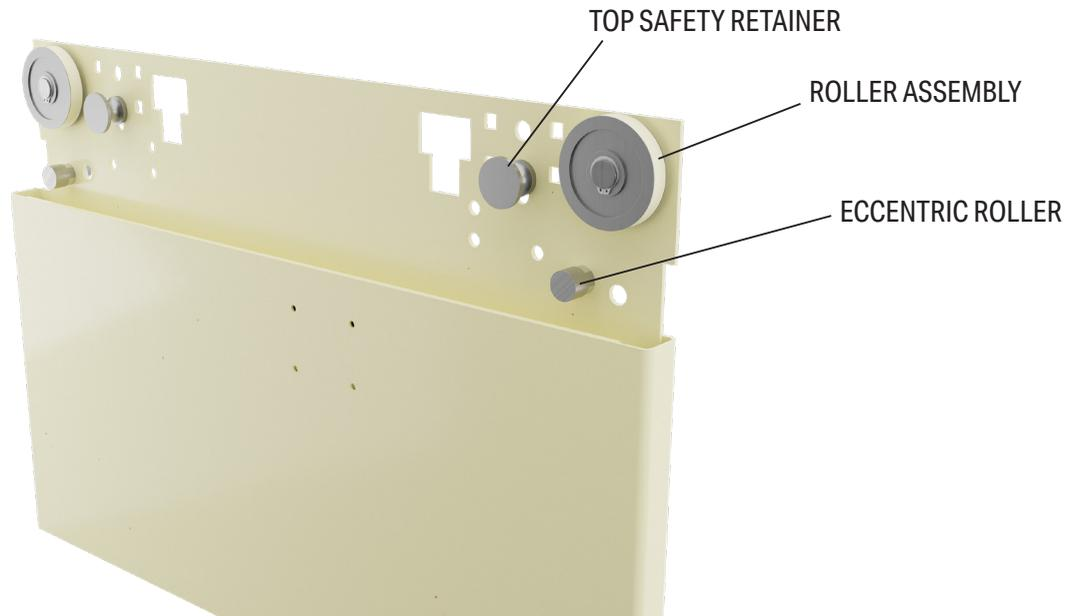

Figure 1: Existing Westinghouse Components
- This kit requires the removal of the existing roller assembly, eccentric rollers, and top safety retainers. These components are shown in *Figure 1*.